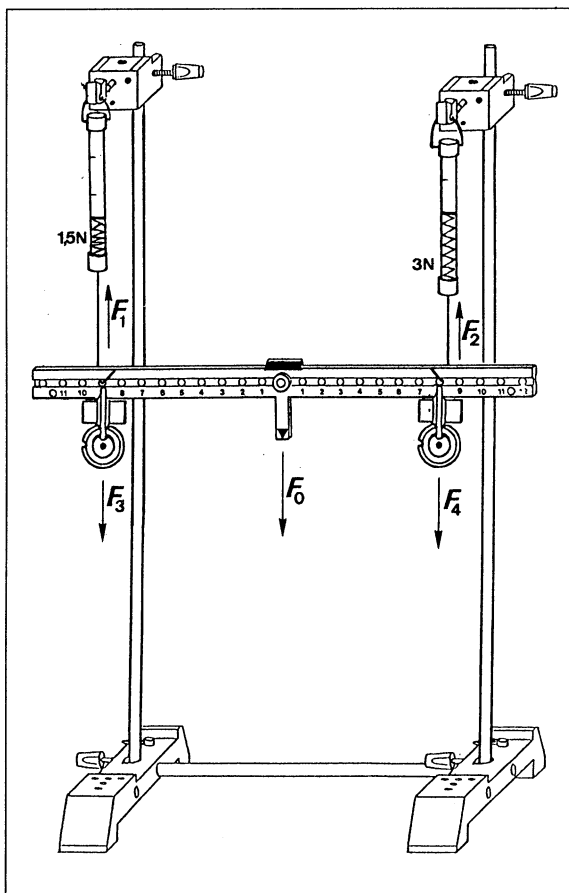

Fig. 1 Experimental setup for investigating the total force resulting from forces working in parallel
1. Set up the apparatus as shown in fig. 1.